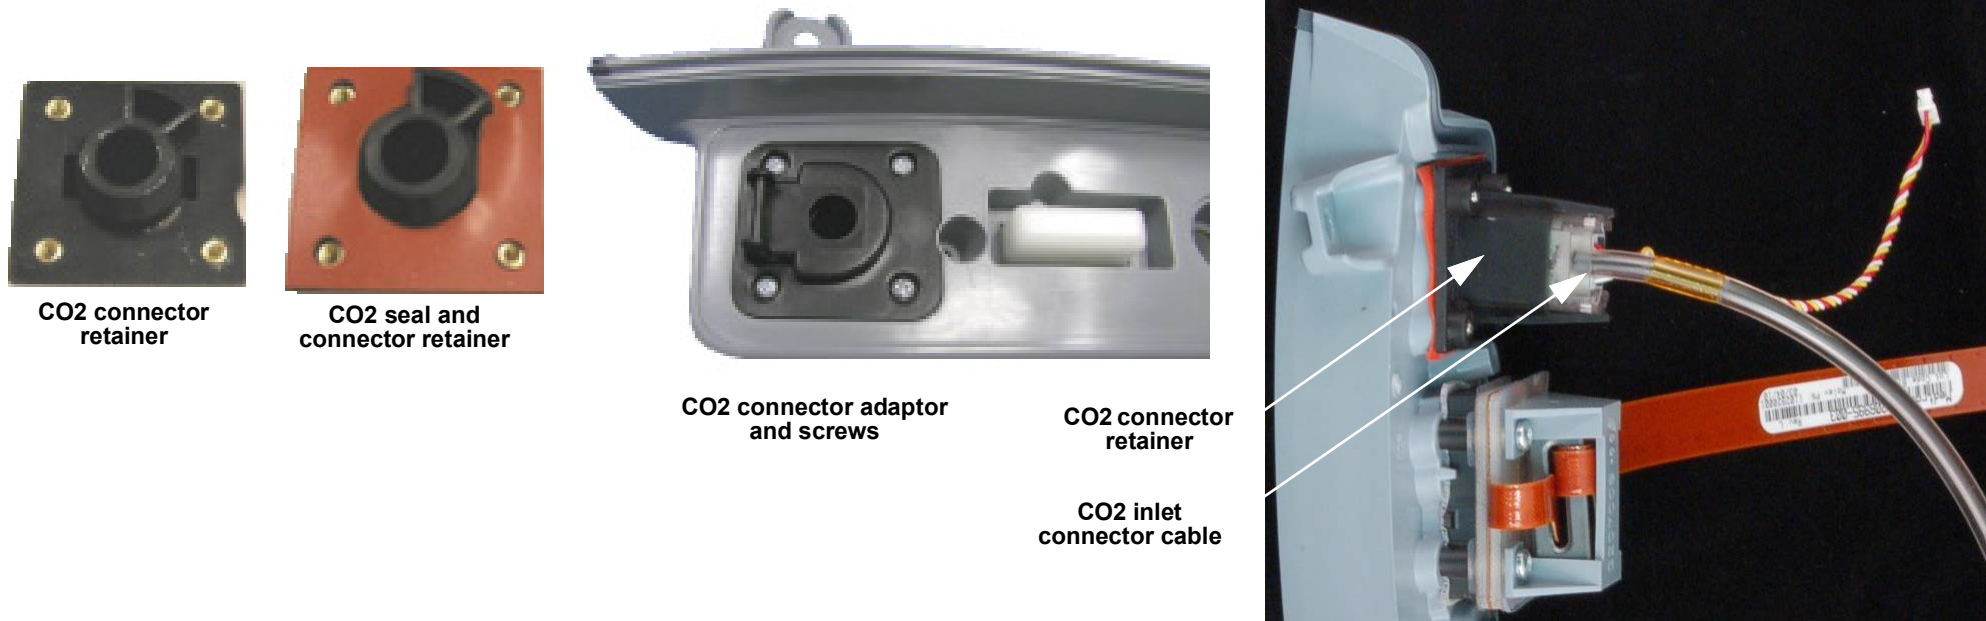

Figure 8.138—CO2 connector parts
4. Disengage the CO2 inlet connector cable from the CO2 connector retainer by spreading the arms of the retainer and sliding out the CO2 inlet connector body (see Figure 8.138 on p. 362). Discard the connector retainer clip.